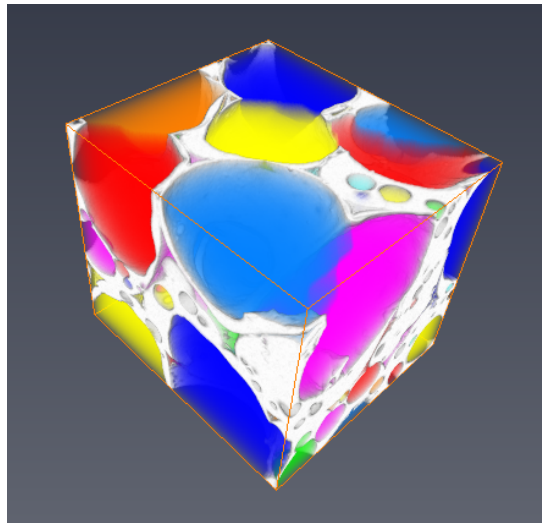

Figure 17.9: Void Data Mixed with Original Data
- Display the result by creating another *Volume Rendering* module on the previous output (see Figures 17.9 and 17.10).